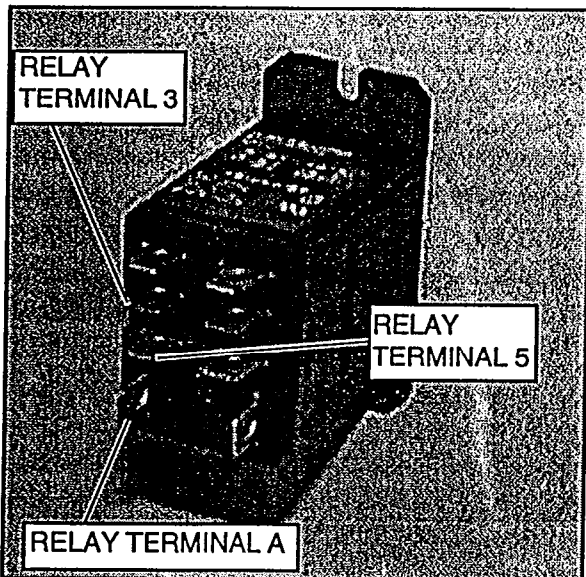

Figure 4
8. Prepare the ends of the included red wire (#029454-099). Butt connect one end of this wire and the 4 inch cut off wire to the end of the red wire that connects to terminal 4 on the relay via the large butt connector (#029620-003). Figure 4 and 5.